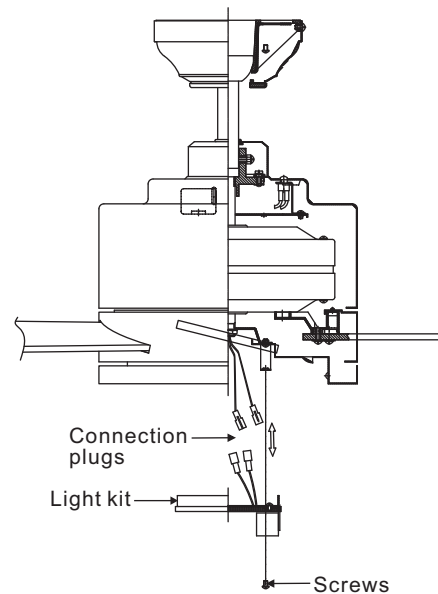

Figure 19
Step 2. Raise and hold the light kit close to the mounting plate and proceed to do the wire connections. Connect the white wire connectors from the light kit and fan, follow the same procedure with the black wire connectors. (Fig. 19)
Step 3. Tuck connections neatly into mounting plate. Place the light plate key holes over the 2 screws previously loosened from the mounting ring, turn light kit until it locks in place at the narrow section of the key holes. secure by tightening the 2 screws previously loosened and the one previously removed. (Fig. 19)